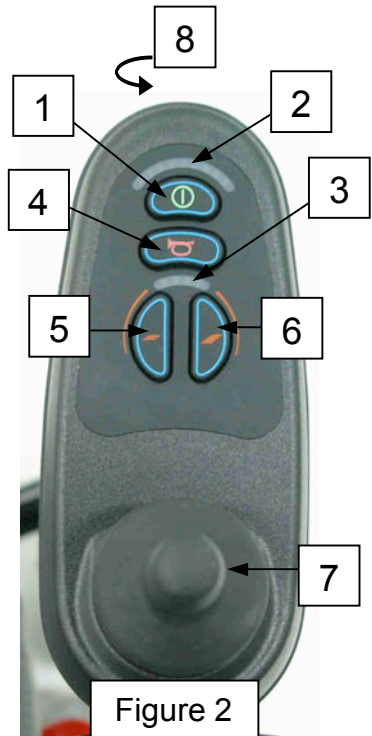

Figure 2
2. Connect the charger to the charging port at the front of the VR2 (item 8 in Figure.2)